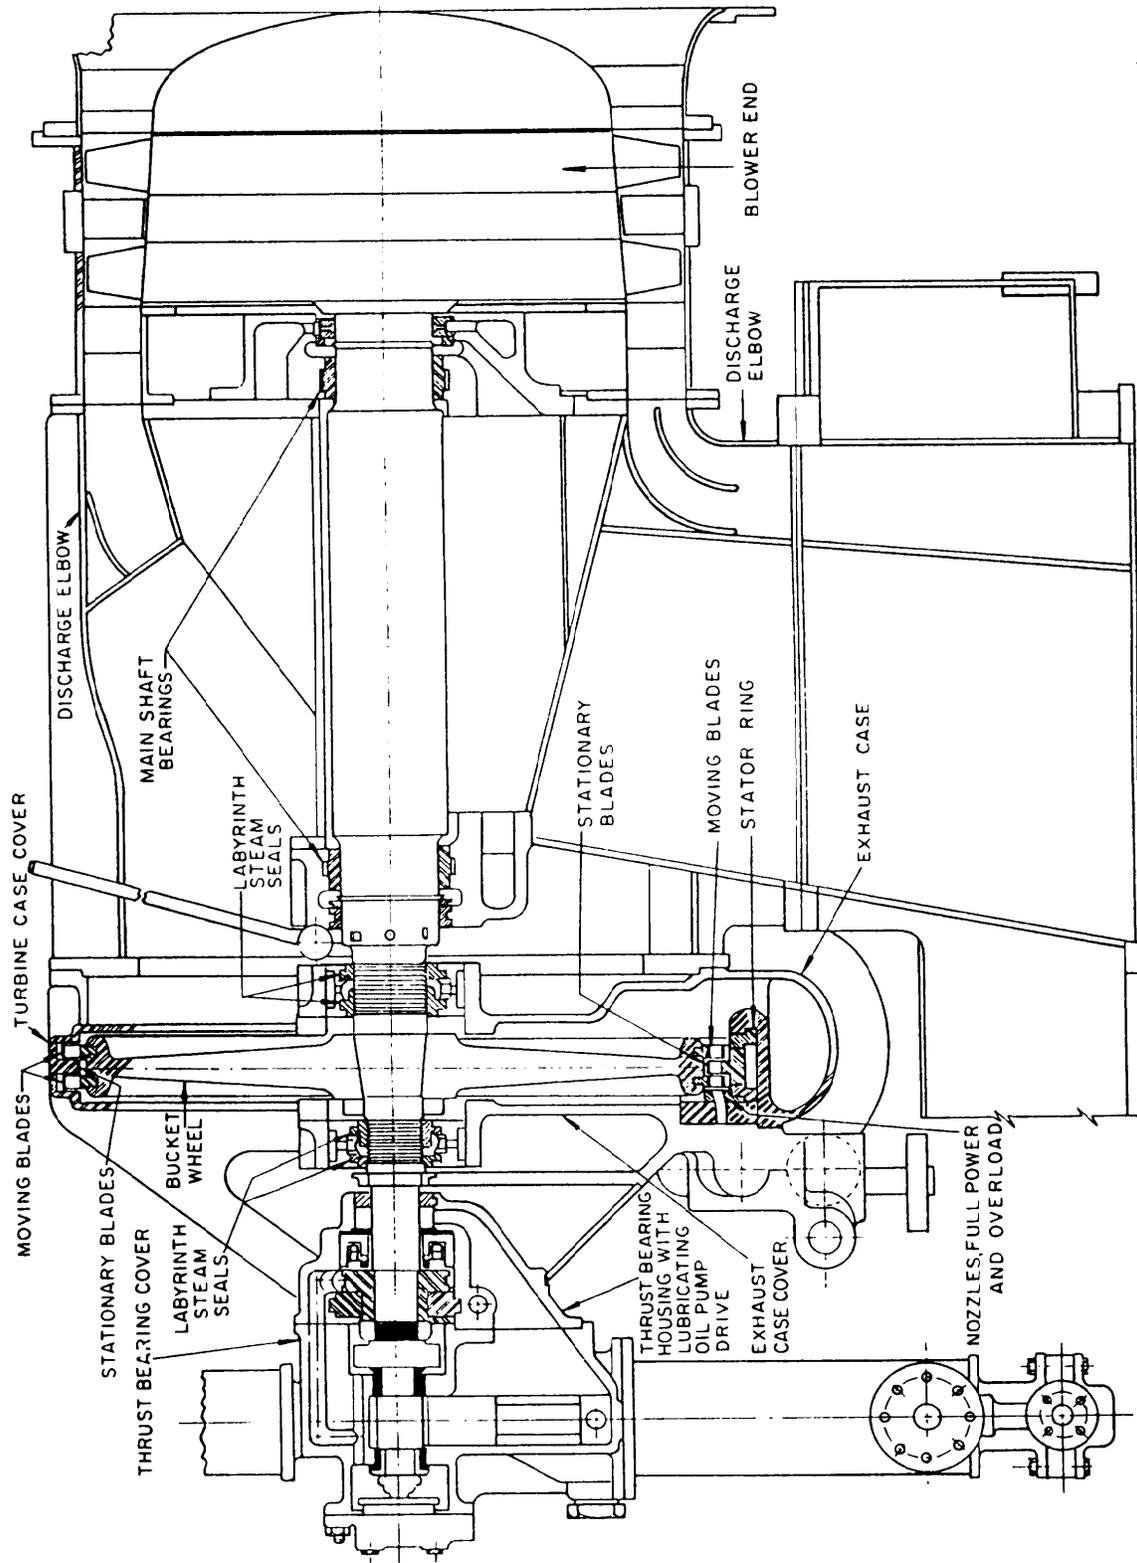

Figure 5-22.—Forced draft blower turbine.
**FORCED DRAFT BLOWER TURBINE.**—The following is a general description of one type of horizontal propeller blower. The forced draft blower turbine (fig. 5-22) is a Curtis-type turbine having two rows of blading mounted on one wheel. The turbine assembly consists of the casing, turbine elements, steam seals, combined exhaust and relief valve, blower governor, and steam inlet valve.
**Casing.**—The casing supports and encloses the rotating parts and directs the flow of steam and air. There are three main divisions of the casing: (1) the thrust bearing bracket and cover, with lubricating oil drive assembly and governor assembly; (2) the turbine case, which includes the exhaust case, the turbine case cover, and the exhaust case cover with inlet valves and nozzle valves attached; and (3) the discharge elbow, which forms the center barrel of the unit and carries the two main shaft bearings. The turbine casing assembly